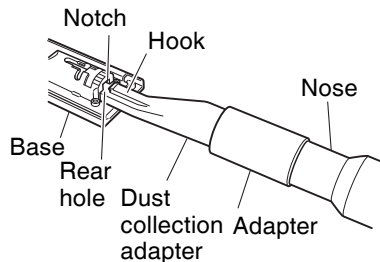

Fig. 17
- Insert dust collection adapter into the rear hole of the base until the hook catches in the notch. (Fig. 17)